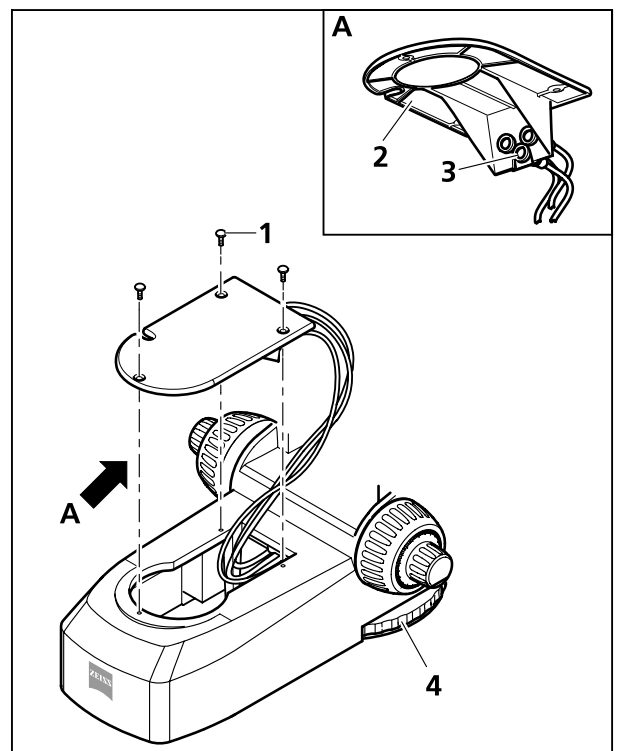

Fig. 3-17 Connecting the LED illuminator
- Unscrew three screws (Fig. 3-17/1) of the cover (Fig. 3-17/2) of the foot and remove the cover.
- Plug the LED illuminator into the port on the cover (Fig. 3-17/3).
The intensity of the LED reflected light can be controlled with the control wheel (operable from both sides) (Fig. 3-17/4).